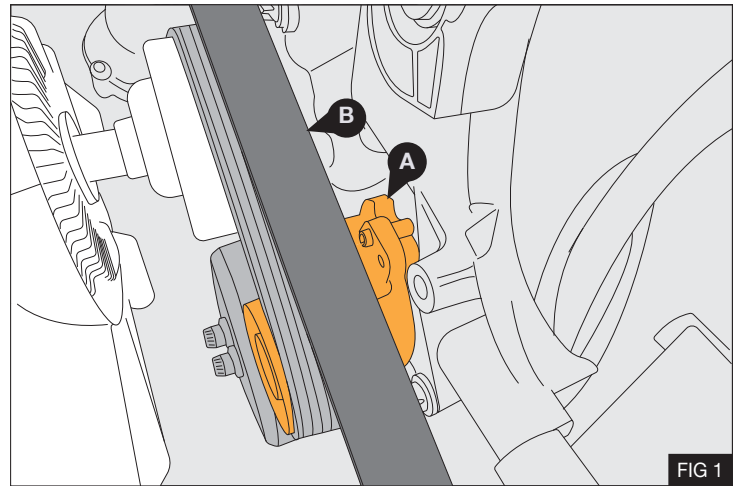

FIG 1
1. Using a suitable tool rotate the automatic belt tensioner **A** clockwise and insert a suitable 4mm pin, an Allen key is ideal for this purpose - Fig 1
2. Remove and discard the original drive belt **B** - Fig 1